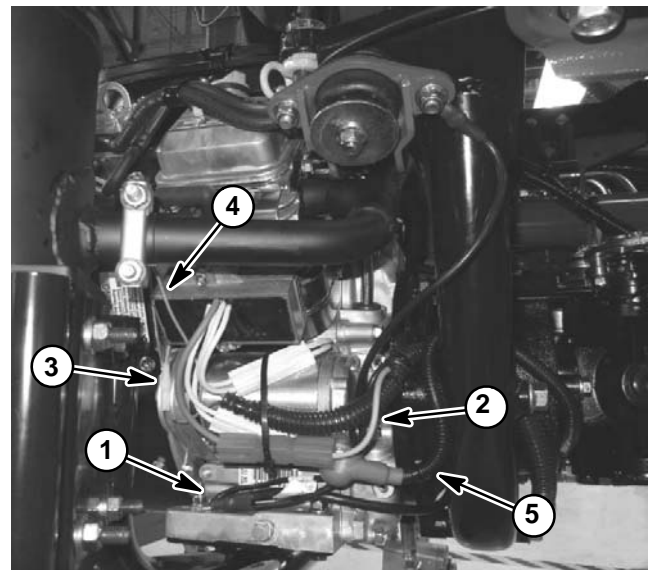

Figure 11
6. Loosen and remove cap screw (item 5), flat washer (item 26), lock washer (item 25) and flange nut (item 6) that secure wire harness ground connectors to engine assembly (Fig. 11).
A. Alternator (from regulator/rectifier) (Fig. 11)
B. Fuel solenoid (Fig. 11)
C. Magneto (Fig. 11)
E. Starter motor (Fig. 11)
8. Loosen the two (2) square head screws (item 21) that secure the engine hub (item 20) to the engine crankshaft.
10. Remove four (4) cap screws (item 13) that secure engine assembly to pump mount (item 12).
4. Align the engine hub (item 20) with the engine crankshaft and square key.
5. While supporting the engine to prevent damaging the pump coupling, carefully move the engine so crankshaft slides into the engine hub (item 20) and toward the pump mount. Once the engine contacts the pump mount, align mounting holes and secure engine to pump mount with four (4) cap screws (item 13). Torque cap screws from **25 to 38 ft-lb (34 to 51 N-m)**.
6. Make sure that rubber coupling (item 22) is not distorted. Secure engine hub to engine crankshaft with two (2) square head screws (item 21). Torque screws from **90 to 110 in-lb (10.2 to 12.4 N-m)**.
7. Secure wire harness ground connector to engine assembly with cap screw (item 5), flat washer (item 26), lock washer (item 25) and flange nut (item 6) (Fig. 11). Make sure that lock washer is positioned between ground connector and engine flange to ensure ground connection to engine.